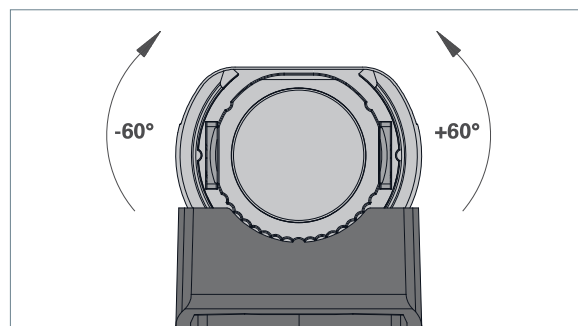

Fig. 6: Aligning the luminaire between -60° and +60°.
- ▶ Turn the luminaire at an angle between -60° and +60° until the work area is optimally lighted, see Fig. 6.